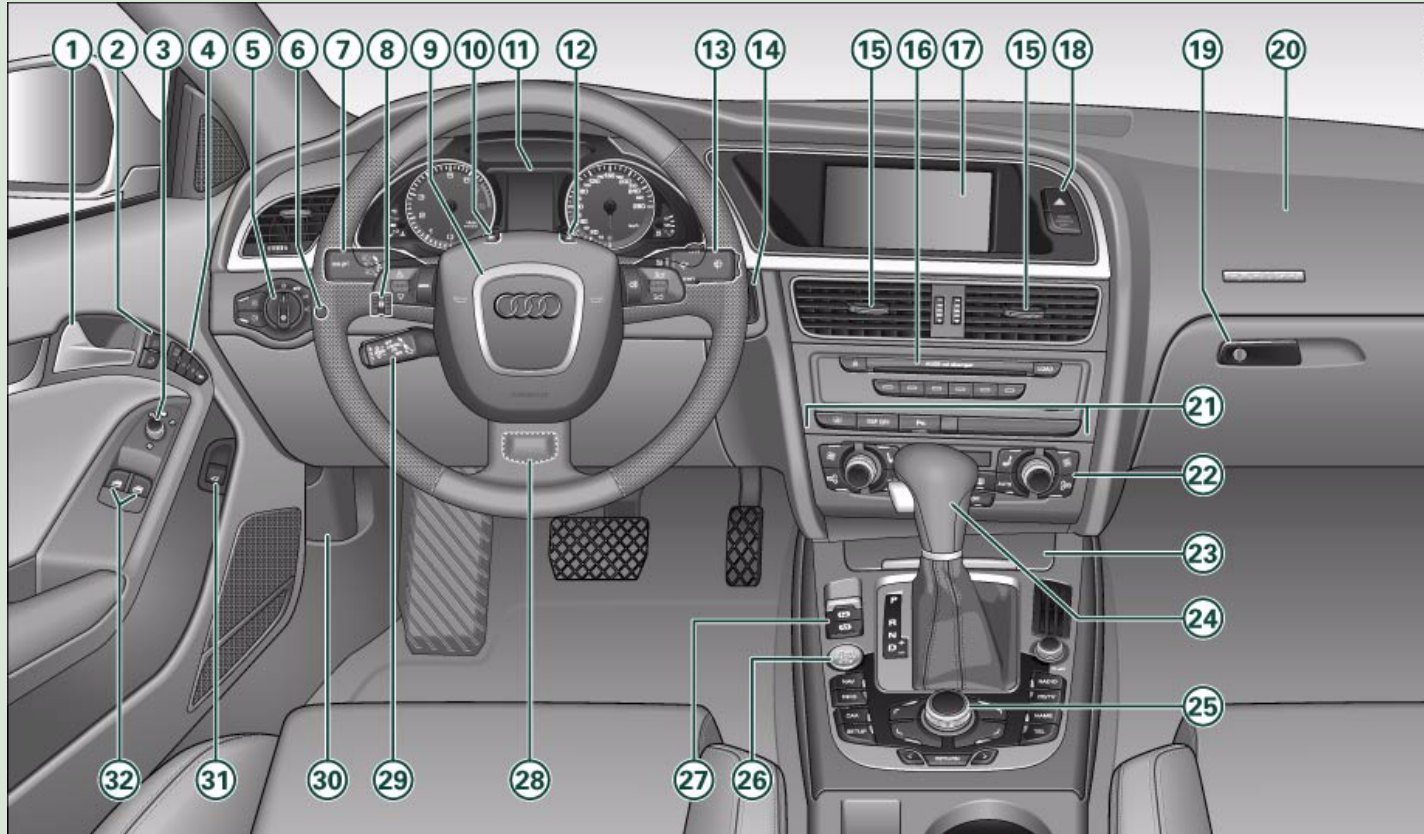

Fig. 1 Some of the items of equipment listed in this section are only fitted on certain models or are optional extras.
- The arrangement of switches and controls on right-hand drive models* may be slightly different from the layout shown in the illustration => *page 8*, fig. 1. However, the symbols used to identify the controls are the same. ■